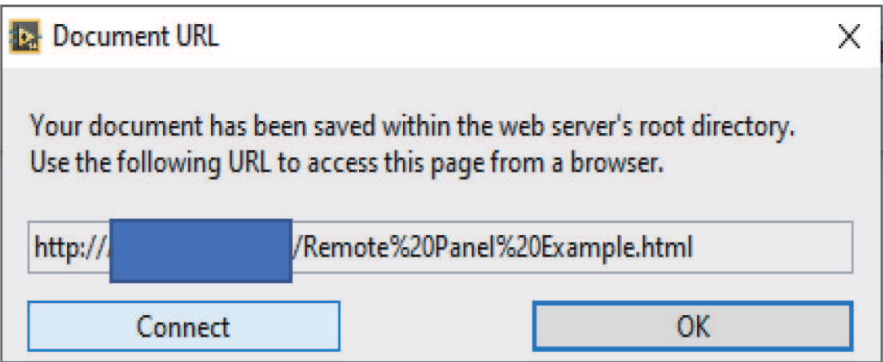

Figure 26.
- 11. Click **Connect** button in **Document URL** window (**Figure 26**). Ensure that default browser is Internet Explorer. If not, copy URL address and paste it to Internet Explorer.